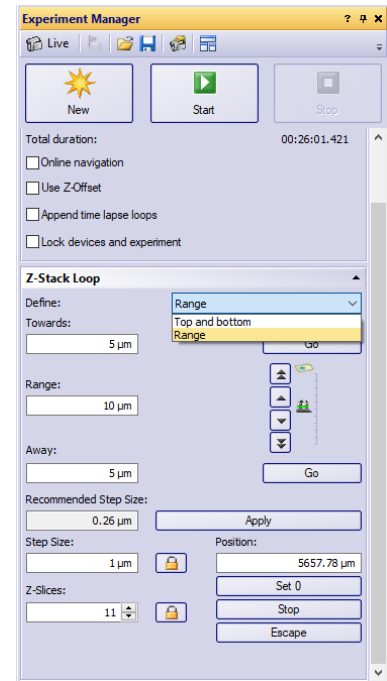

Fig.6 Z-stack Dialog
2. Choose between **Range** or **Top and bottom** in the **Z-Stack Loop** settings (Fig.6)